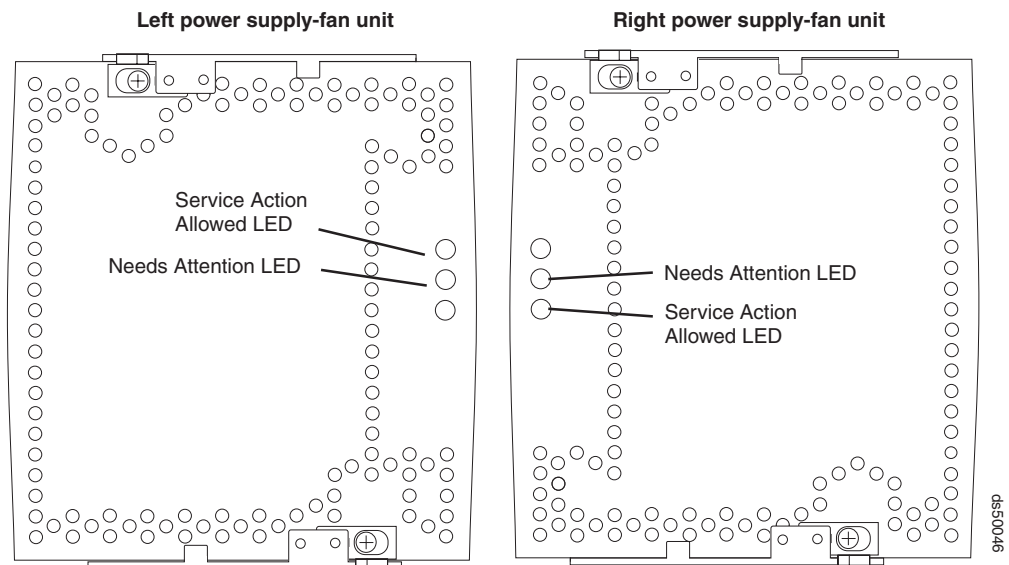

Figure 129. Power supply and fan unit LEDs
4. Locate the failed power supply and fan unit by checking that the power supply and fan unit Needs Attention LED that is turned on. (Figure 129 shows the LEDs on the power supply and fan unit.)
5. Is the Service Action Allowed status LED turned on? (Figure 129 shows the location of the Service Action Allowed status LED on the power supply and fan unit.)